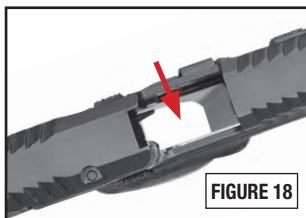

FIGURE 18
- Check the magazine well to verify that the pistol is unloaded (FIGURE 18).